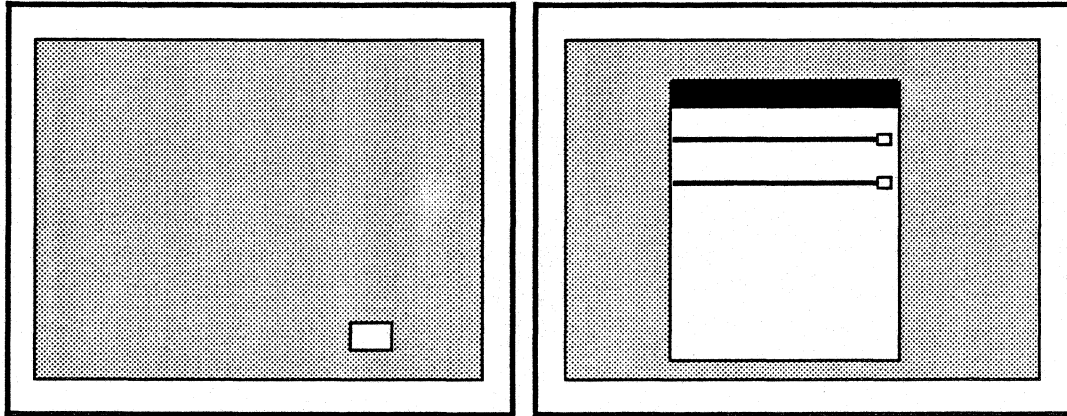

Figure 3.21
- 1) Select **Size** in the Window Manager Menu. See figure 3.21.